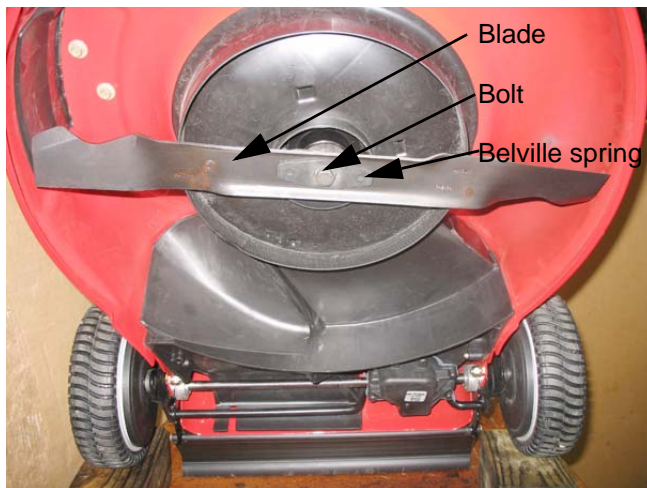

Figure 3.1
3. Tip the mower with the muffler side down, or tilt the mower back on a work bench, with the front wheels up. See Figure 3.1.